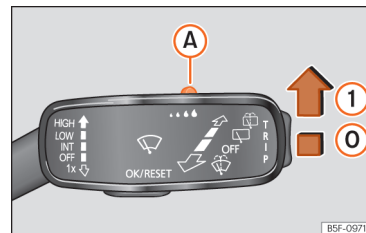

Fig. 87 Windscreen wipers lever: adjust the rain sensor **A**.
Push the lever to the desired position >>> **Fig. 87**.
- ① Rain sensor on; automatic wipe if necessary.
When the ignition is switched off and then back on, the rain sensor stays on and starts operating again when the windscreen wipers are in position >>> Fig. 87 ① and the vehicle is travelling at more than 16 km/h (10 mph).